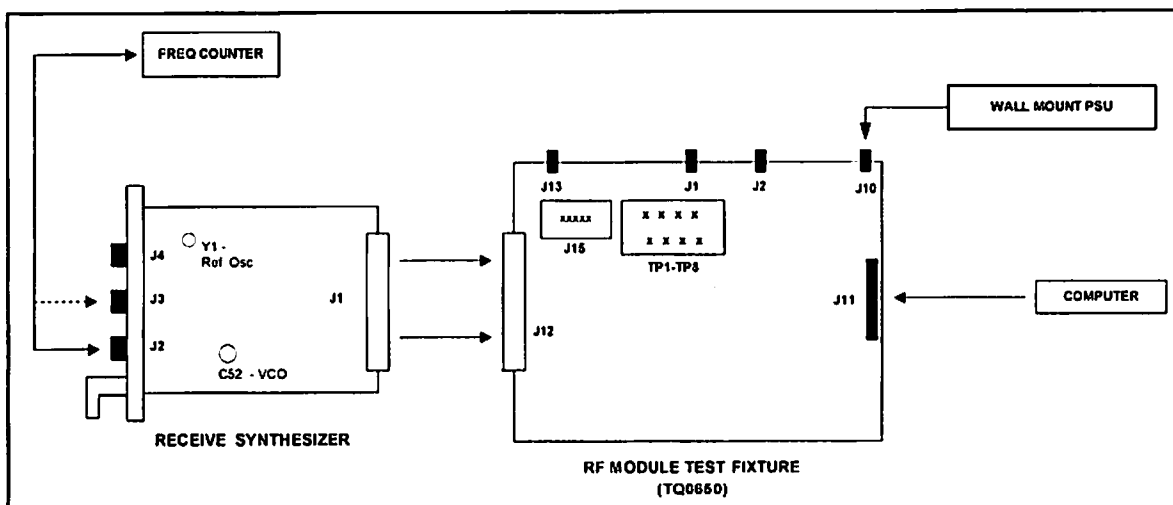

Figure 5-1: Initial Test Setup
1. Connect the RX Synthesizer to the RF Test Fixture as shown in Figure 5-1.